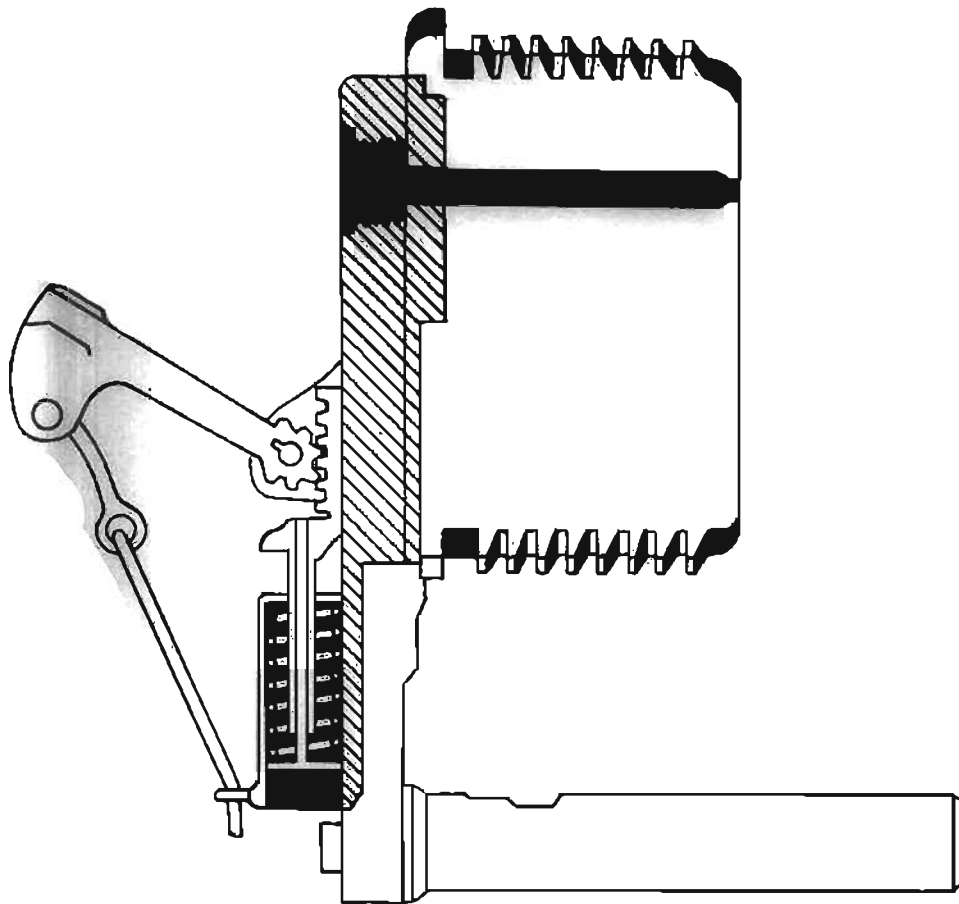

Figure 29
- B. With lanyard pulled back, firing rack spring is compressed (fig. 29).